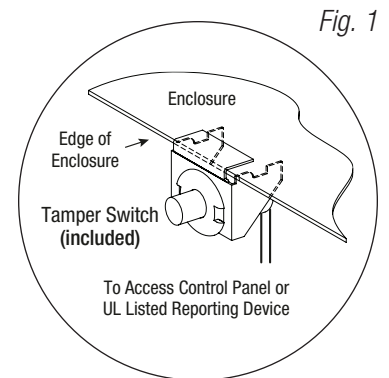

Fig. 1
3. Mount included UL Listed tamper switch (Altronix Model TS112 or equivalent) in desired location, opposite hinge. Slide the tamper switch bracket onto the edge of the enclosure approximately 2" from the right side (*Fig. 1, pg. 2*). Connect tamper switch wiring to the Access Control Panel input or the appropriate UL Listed reporting device. To activate alarm signal open the door of the enclosure.
5. Refer to the ULXB Power Supply/Charger Installation Guide for AL1024ULXB2 and corresponding *Sub-Assembly Installation Guides* for the following models: ACMS12(CB), PDS16(CB) and VR6 for further installation instructions.